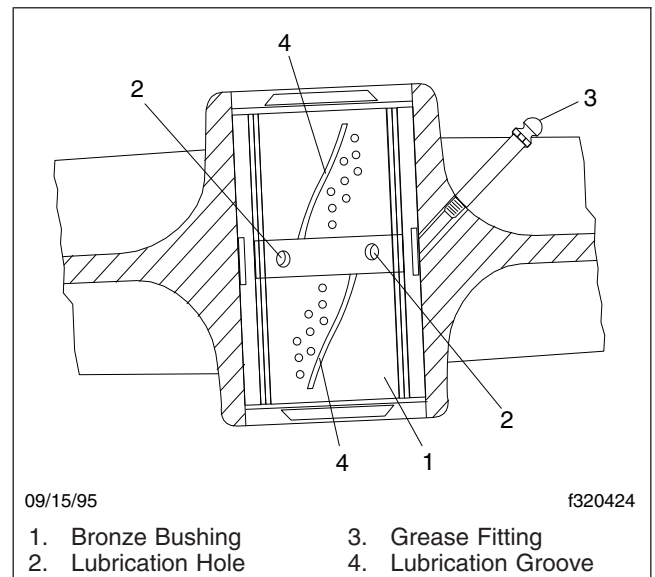

Fig. 16, Hendrickson RT2 and RTE2 Series Bushing Lubrication
3. Use a multipurpose chassis grease and lubricate the bronze, ball-indented bushings in the spring eyes at the grease fitting. See **Fig. 16**. Continue